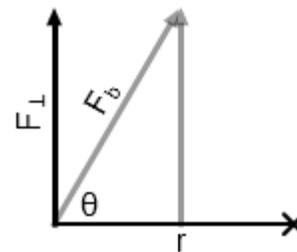

Figure 14: $\theta = 60^\circ$
11. For Trial 2, adjust the pulley so that θ is 60° as shown in Figure 14 and listed in Table 3. Clearly the beam is no longer in balance. Add Helium to the balloon until equilibrium is again achieved. It won't take much. The figure at the right should show why. Record the new F_b value.